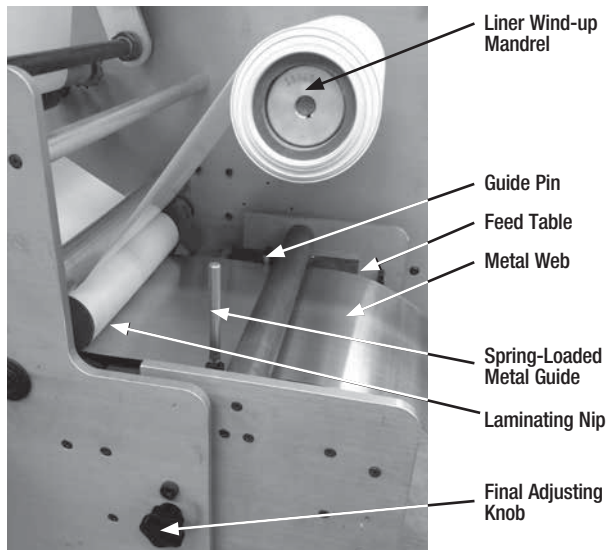

Figure 7
- q. If necessary, make final adjustments in the alignment of the metal substrate and sheeting with the adjusting knob on the feed table (Figure 7). Turning the knob counterclockwise moves the metal back toward the machine. Turning the knob clockwise moves the metal forward towards the operator.